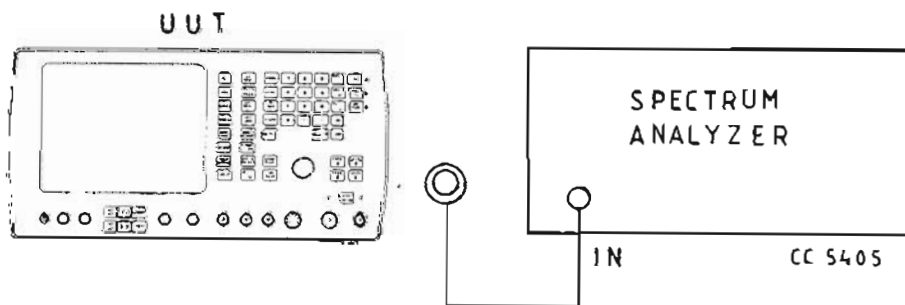

Fig. 25 Test equipment connections for r.f. generator r.f. leakage performance checks
- (1) Connect the equipment as shown in Fig. 25, with the 50 Ω load connected to the b.n.c. output socket.